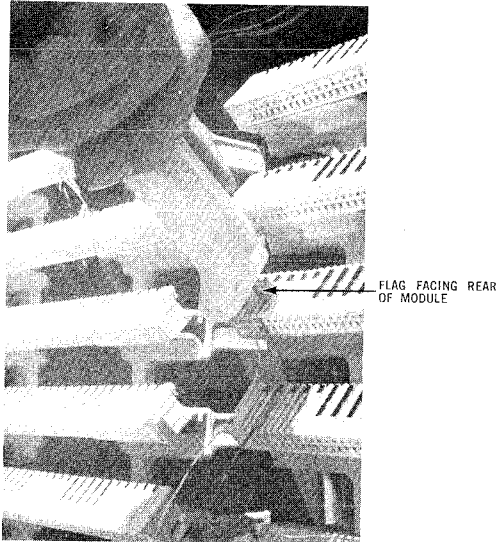

Fig. 9
4.04 To terminate the jumper wire on the binding post, insert the impact tool in the channel slot, perpendicular to the surface of the module with the flag portion of the head of the tool facing the rear of the module Fig. 9.